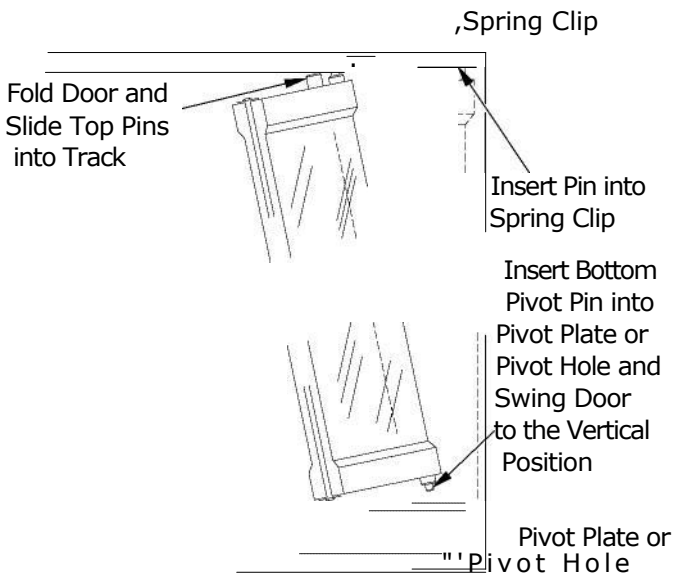

Figure 1- Bi-Fold Door Installation
1. With bi-fold door completely folded, insert bottom pivot pin into pivot plate or pivot hole located near bottom corner of front face. Open and swing door to vertical position making sure top pins slide into door track. Door is installed when top door pin snaps into spring clip (see Figure 1).